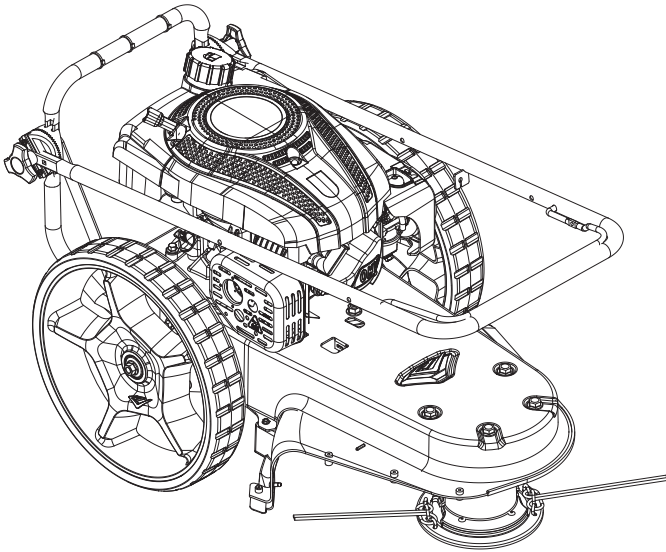

FIGURE 2: Your new mower as it is shipped to you.
4. Pull the mower out of the carton. **SEE FIGURE 2**